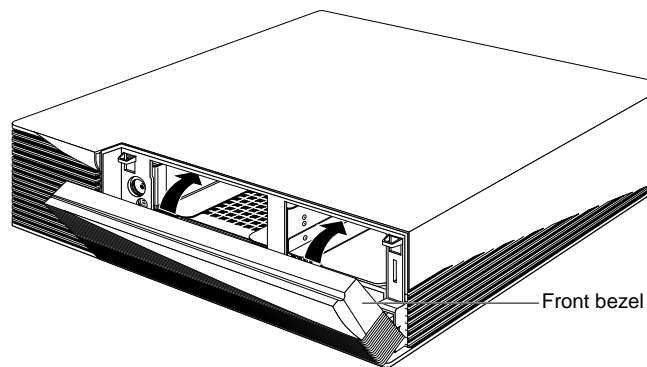

Figure 3-7 Replacing the Front Bezel on the Indigo² Chassis
- Place the tabs on the bottom of the bezel in the grooves in the front of the chassis, as shown in Figure 3-7.